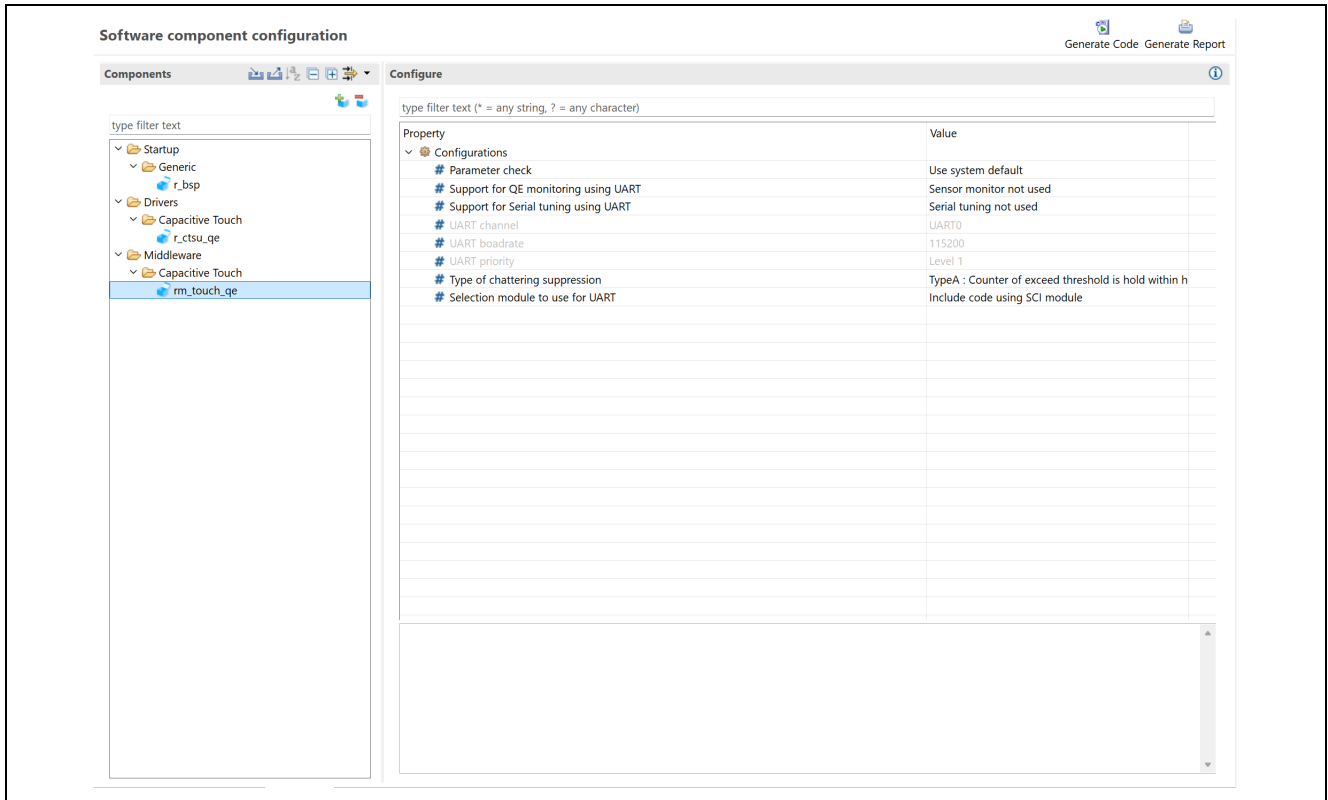

Figure 6-23 Smart Configurator (RX)
2. As shown in Figure 6-23, add the Touch middleware and the CTSU driver on the Smart Configurator.